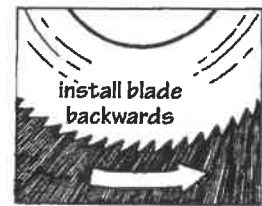

Figure 21.
- With a circular saw, always install the fine-tooth (plywood) blade backwards on the saw for a smoother, cleaner cut, especially in cold weather (Fig. 21). Cut slowly. Do not attempt to cut materials other than vinyl with a reversed direction saw blade.